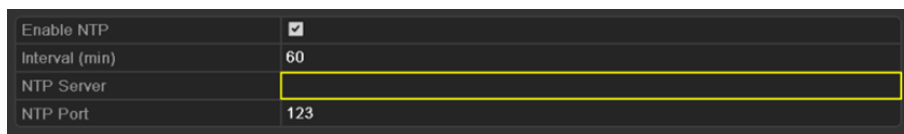

Figure 11. 22 NTP Settings Interface
2. Select the **NTP** tab to enter the NTP Settings interface, as shown in Figure 11. 22.